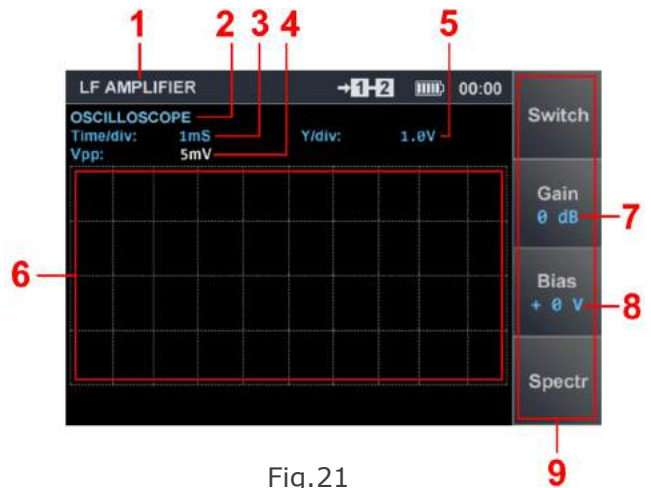
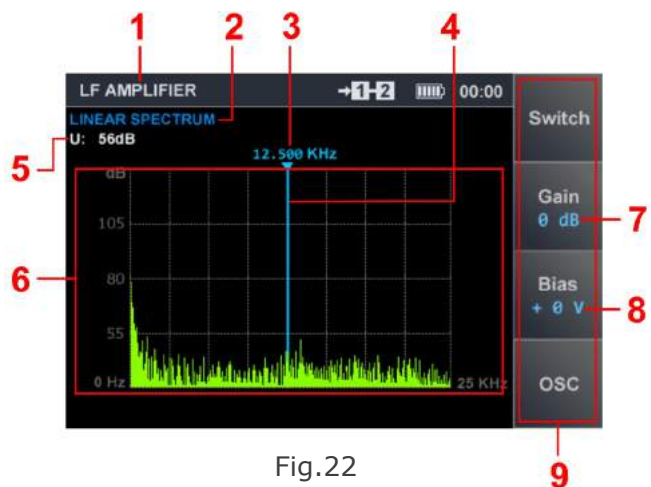

Fig.21
Fig.22
To enter the "LFA" mode from the Start Menu, choose "LOW FREQUENCY AMPLIFIER" using the \uparrow and \downarrow keys, and press "ENTER". In the "LFA" mode, two ways of data representation are implemented, i.e., oscilloscope (Fig.21) and spectrum analyzer (Fig.22). On entering the "LFA" mode, it is "OSCILLOSCOPE" (Fig.21) by default. To toggle between the two forms of representation, press "F4".
In Fig. 21:
A spectrogram will appear on the screen. Fig. 22 shows the spectrum analyzer in the ultra low frequency mode.
In Fig. 22:
The displayed spectrogram (Fig.22) does not scale and spans over the whole range (0-25kHz). It can be navigated by moving the hairline cursor (4, Fig.22) with the \leftarrow and \rightarrow keys. The current frequency is always shown numerically above the cursor (3, Fig.22).
- with the  and  keys set the required gain; the adjusted value will be shown on display (7, Fig. 21; 7, Fig.22);
- set the required bias voltage with the  and  keys; the adjusted value will be shown on display (8, Fig. 21; 8, Fig.22);